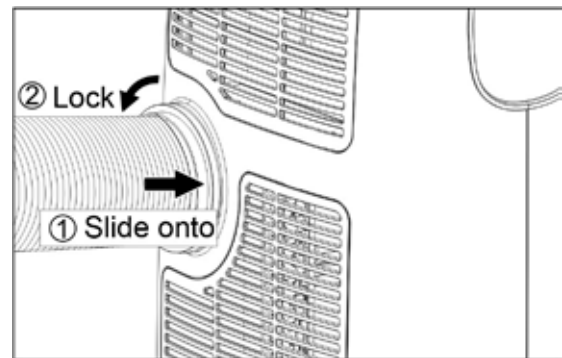

Fig 4
3. Install the hose inlet into the unit by sliding on and lock (Fig 4).